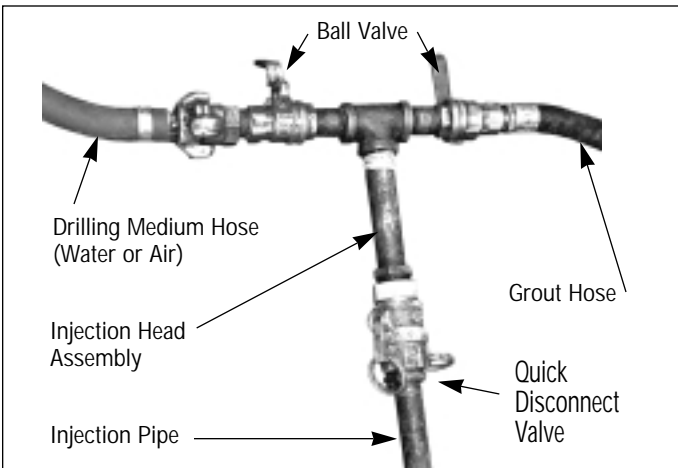
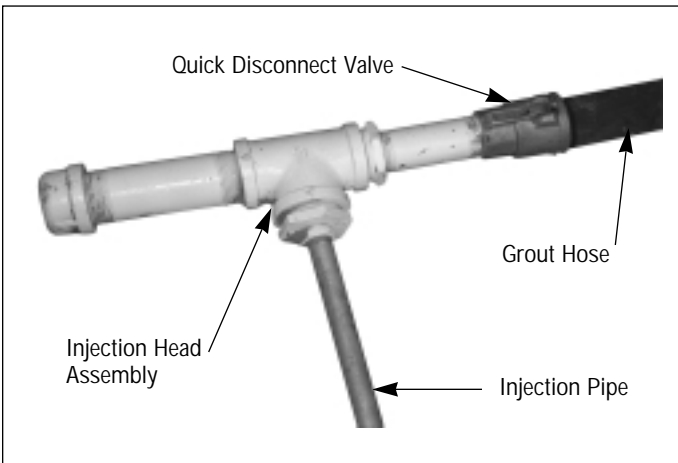

FIGURE 1 — Dual Connection Injection Head Assembly
FIGURE 2 — Single Connection Injection Head Assembly
**Injection Head:** The contractor will need to fabricate an "Injection Head" to connect the pump hose to the injection pipe. Two examples of "Injection Heads" are pictured below. FIGURE 1 illustrates an Injection Head assembly with two hose connections — one for the grout and the other for a drilling medium (water or air). FIGURE 2 illustrates an Injection Head assembly with only a grout line connection. The Injection Head will also serve as a leverage device in assisting the applicator in inserting the injection pipe into the soil substrate.
Insert injection pipe as close as possible to the foundation wall at 24" (0.6 m) on center to the top of the footing or the desired depth. Use a "Tile Rod" or long drill bit to start the first few feet of the injection hole. With a Dual Connection Injection Head, use pressurized air or water jetting to assist in the process of sinking the pipe (see Figure 1). With a Single Connection Injection Head, use the grout as a drilling medium to assist with sinking the pipe (see